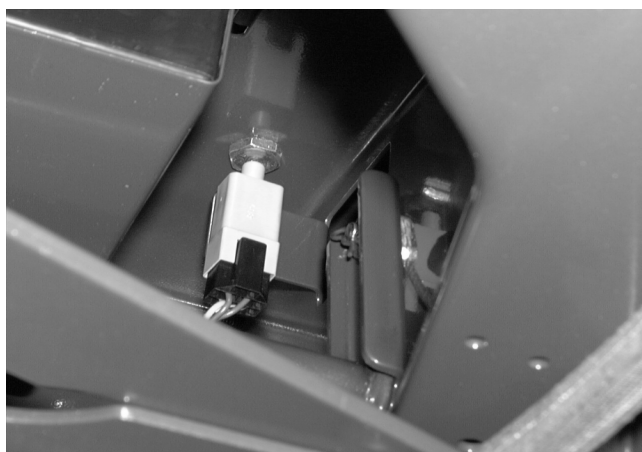

FIGURE 6.
- 5). Remove the seat switch from the frame holding bracket. See figure 6.